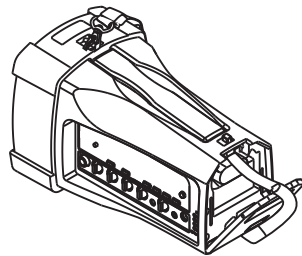

Fig. 32
(B) Remove the battery compartment cover by push latch to OPEN position, Fig. 32.